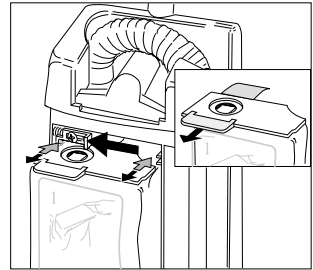

Figure 7
5.1 Exchanging the paper filter bag <Figure 7>